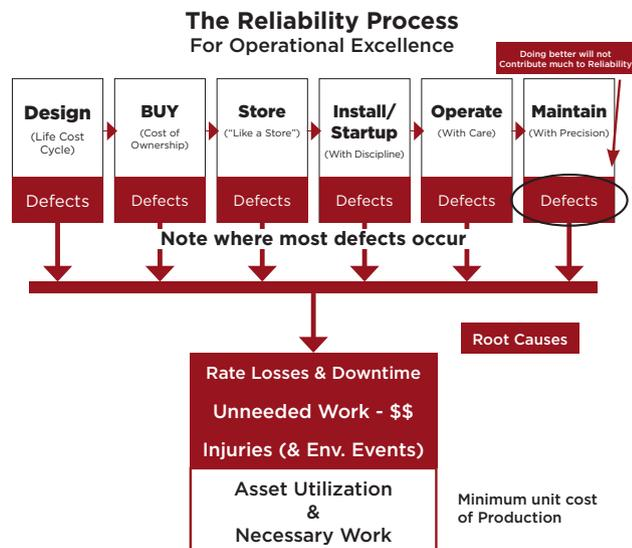

Figure 1: The reliability process for operational excellence
Moreover, reliability is essential for operational excellence and it is far more dependent on excellence in design, procurement and operating practices. This is where most of the defects occur that create the maintenance requirements and result in additional costs, lost production, incidents and injuries, as illustrated in Figure 1.
1. Leaders **must** be actively involved as sponsors for reliability and have an excellent understanding of Figure 1. Sponsorship is more than permission. Senior leadership frequently give permission – just go do it – but then fail to provide the visible support necessary for developing and sustaining it. Or, they fail to provide the resources to assure reliabil-